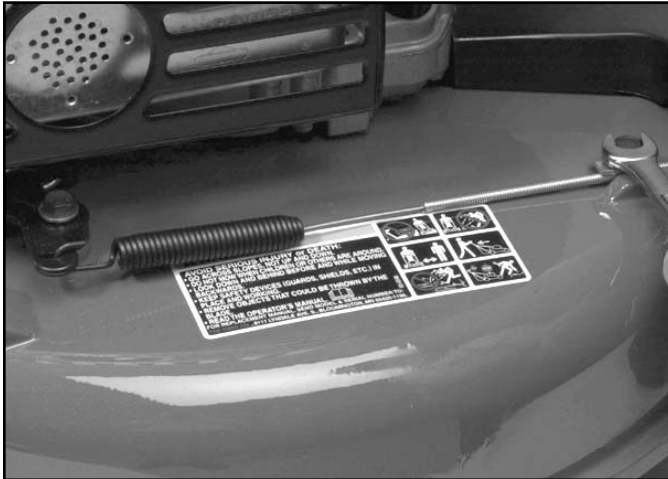

Fig 204
5. Hook the spring on the end of cable and into the bellcrank arm (Fig. 204).